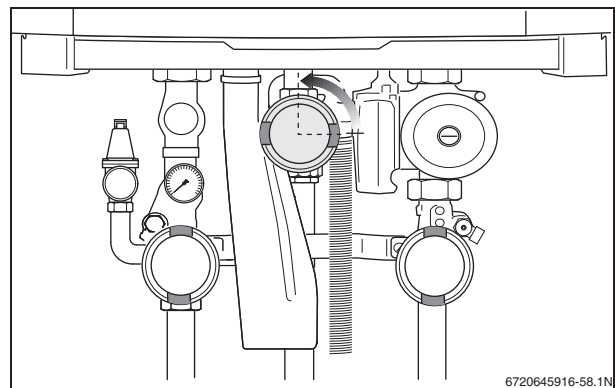

Fig. 58 Opening the gas valve
- Slowly open the gas valve by pushing on the gas valve and turning it counterclockwise through ¼ rotation (fig. 58). The gas valve is open when it is in the vertical position.
- Slowly open the gas valve by pushing on the gas valve and turning it 1/4 rotation in a counterclockwise direction (fig. 58, page 43). The gas valve is open when it is in the vertical position.